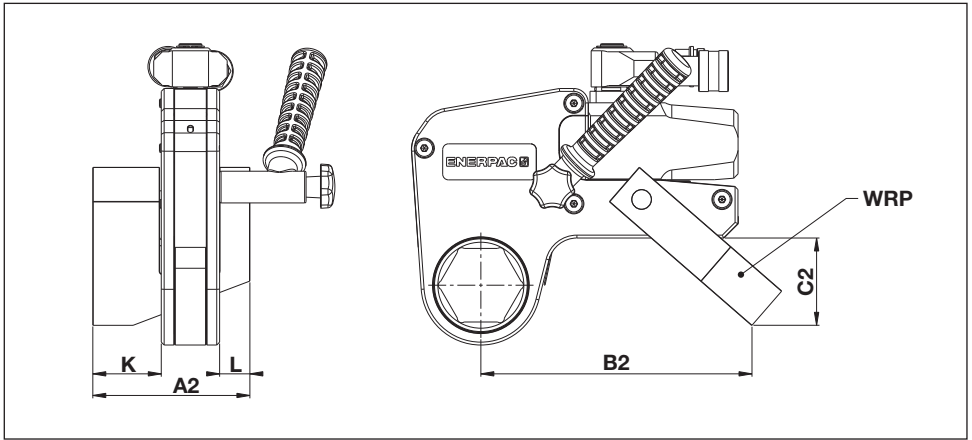

Fig. 24
6.1.2 Dimensions, WRP Series Reaction Paddle (Fig. 24)